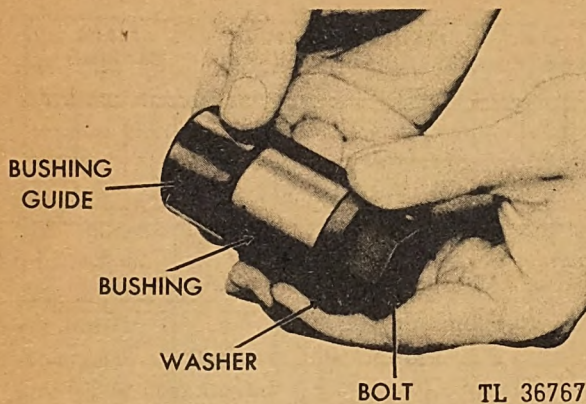

Fig. 115. Cam Bushing Installing Tool
e. *Removing and Installing Camshaft Bushings.* With a hacksaw blade, carefully cut through the old camshaft bushing, being careful not to cut into the crankcase. With a cold chisel, break the bushing and knock it out. To install the bushing, use a tool similar to the one shown in Figure 115. Put the bushing in place and be careful to line up the oil holes in the bushing with the oil passage holes in the
If a tool as shown in Figure 115 is not available, use two washers slightly larger than the bushing and with holes in the center just large enough through which a bolt  $\frac{1}{2}$  inch in diameter and between 2 inches and 3 inches long can pass. Put one washer on one side of the crankcase with a bolt through the washer. Put the bushing into place and, with a washer and nut on the bolt, carefully turn the nut to pull the bushing into position. Be careful that the bushing is aligned with the hole in the crankcase before and during the process of pulling the bushing into place.